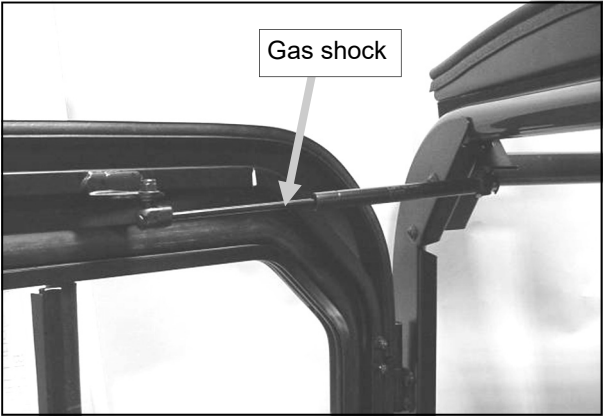

Fig. 6.2 (view of passenger’s side door)
6.2 Install the gas shock to the top of the frame and door as shown in figure 6.2 so that the quick release end of the gas shock (end with the red thumb tab) is attached to the cab upper mount for easy removal of the doors.